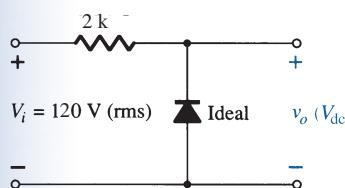

FIG. 170
25. For the network of Fig. 170, sketch v_o and determine V_{dc} .